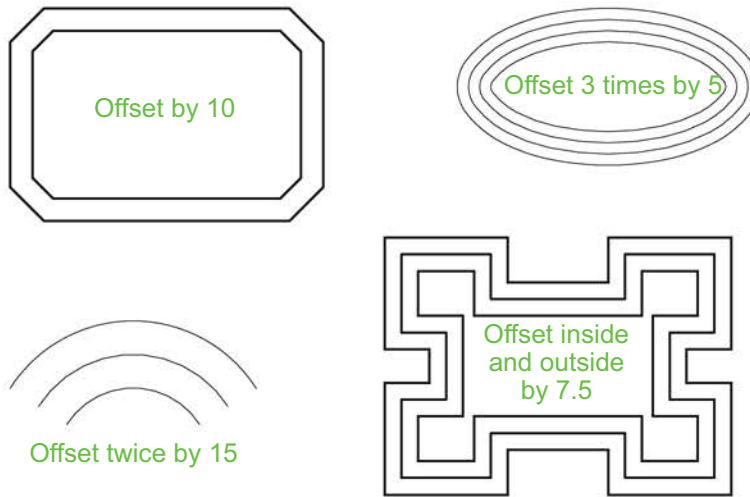

Fig. 6.14 Examples – Offset
EXAMPLES – OFFSET (FIG. 6.14)
- Repeat for drawings 2, 3 and 4 in Fig. 6.13 as shown in Fig. 6.14.